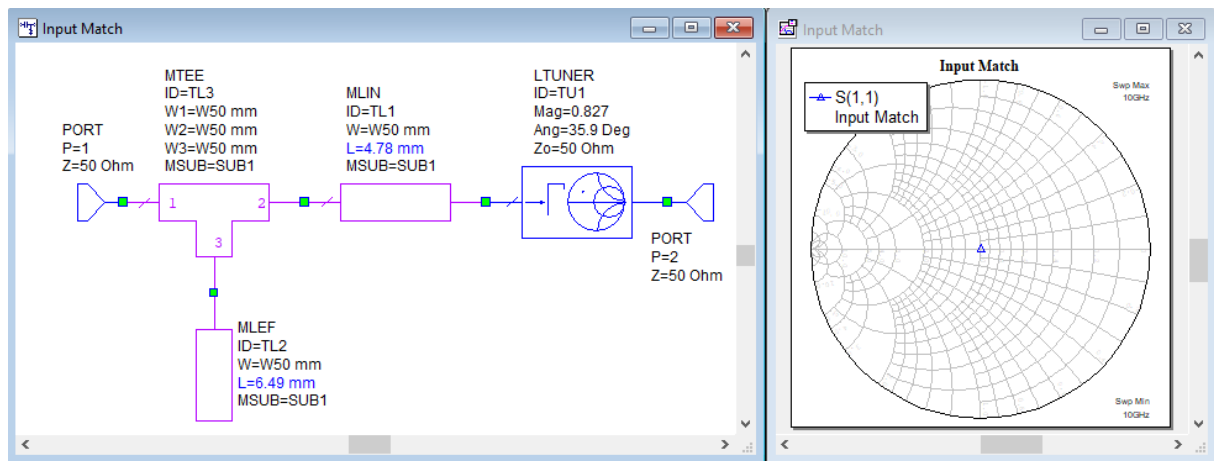

Fig. 6 Input matching circuit with discontinuity and resulting reflection coefficient.
- To complete the design, add the influence of discontinuities. Between TL1 and TL2 insert the MTEE discontinuity. Using TUNE TOOL, adjust TL1's and TL2's lengths as shown in Fig. 6. Usually, approx. a 10% reduction of TL1 and a very short lengthening of TL3 is necessary.